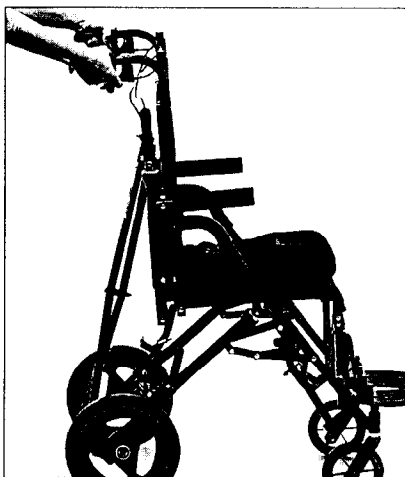

Fig.64
1. Bring the chair to the most upright position by squeezing both triggers on the handles and tilting the seat forward. Make sure it is in the most upright position. **Fig.64**